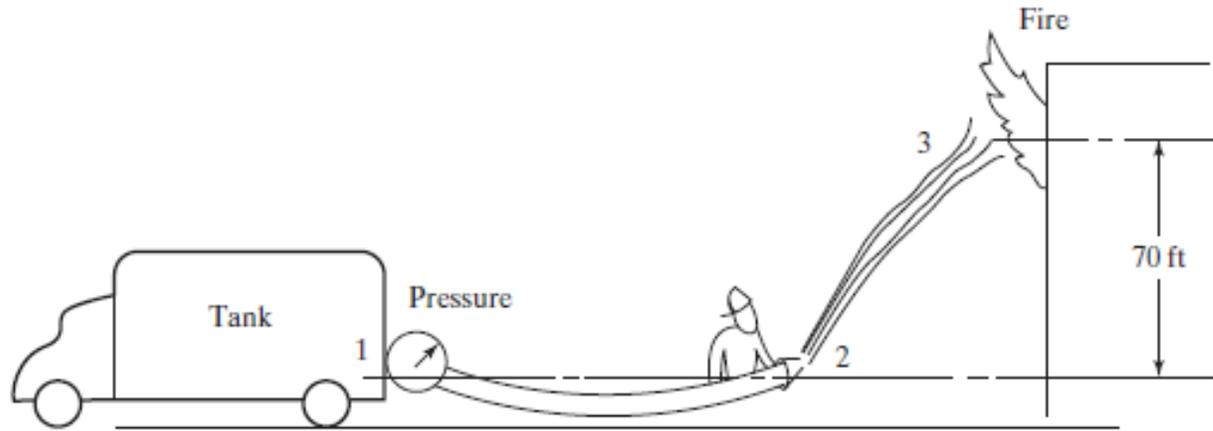

Fig. 5.
10. You are in charge of the pumping unit used to pressurize a large water tank on a fire truck. The fire that you are to extinguish is on the sixth floor of a building, 70 ft higher than the truck hose level, as shown in Fig. 5.